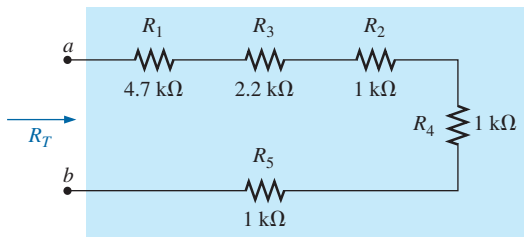

FIG. 5.10
**Solution:** First, the order of the resistors is changed as shown in Fig. 5.10 to permit the use of Eq. (5.2). The total resistance is then